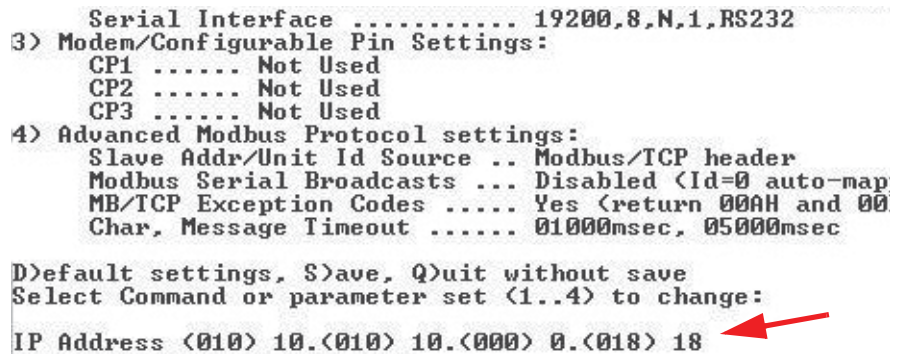

Figure 4-20 Assigning IP Address
12. Type **1** to set the IP address. Type the desired IP address and press **Enter**. See Figure 4-20.